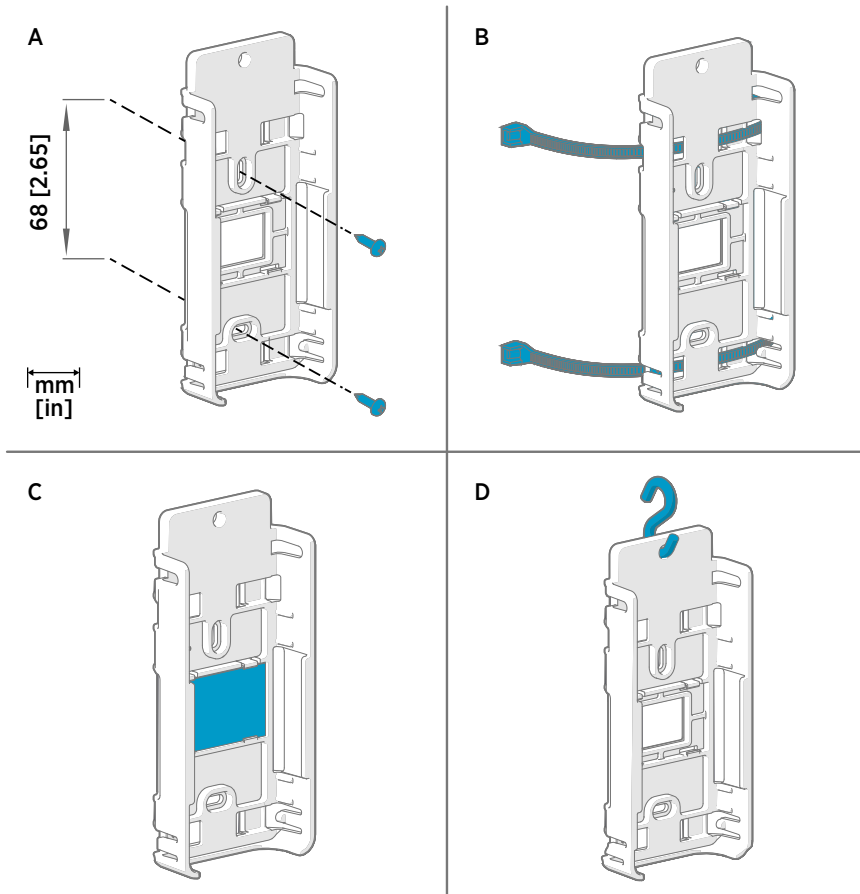

Figure 9 RFL100 Mounting Methods
2. Attach the mounting bracket using one of the mounting methods shown in Figure 9 \(page 22\). Orient the bracket vertically so that the probe or probe cable points down after installation. Do not attach RFL100 without the mounting bracket.